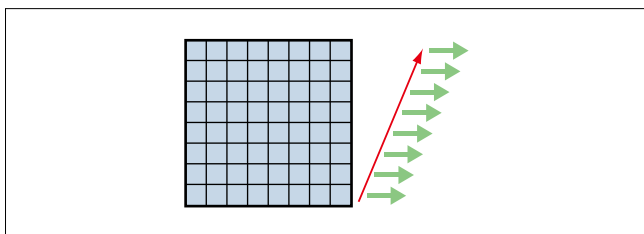

Fig. 16 Bottom to top readout
- Bottom to top readout (Fig. 16): The data is readout from the bottom to the top line.